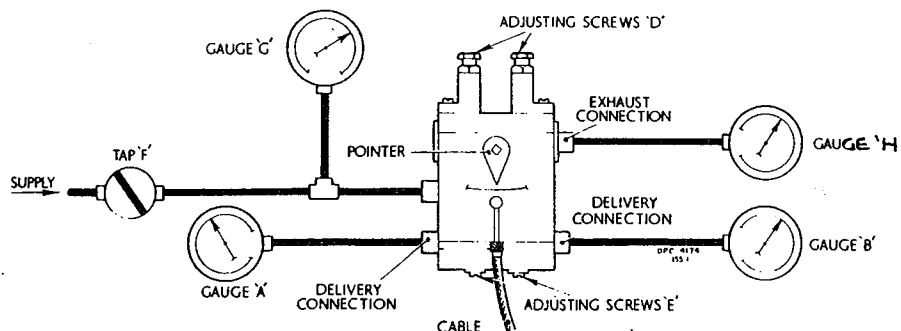

Fig.4 Test rig
19. (1) Mount the unit in the test rig (fig.4). Fit low pressure gauges (0-500 lbf/in²) at A and B, leave gauge H disconnected.